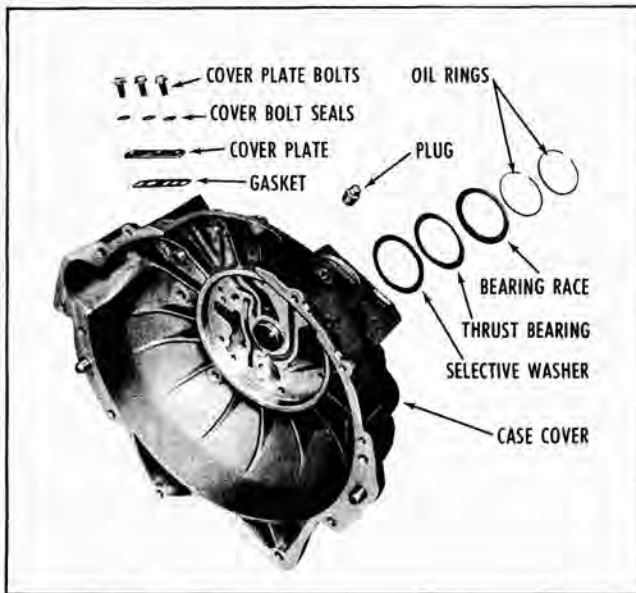

Fig. 69 Case Cover—Exploded
6. Remove 3 case cover plate to case cover bolts and washers (Fig. 69).